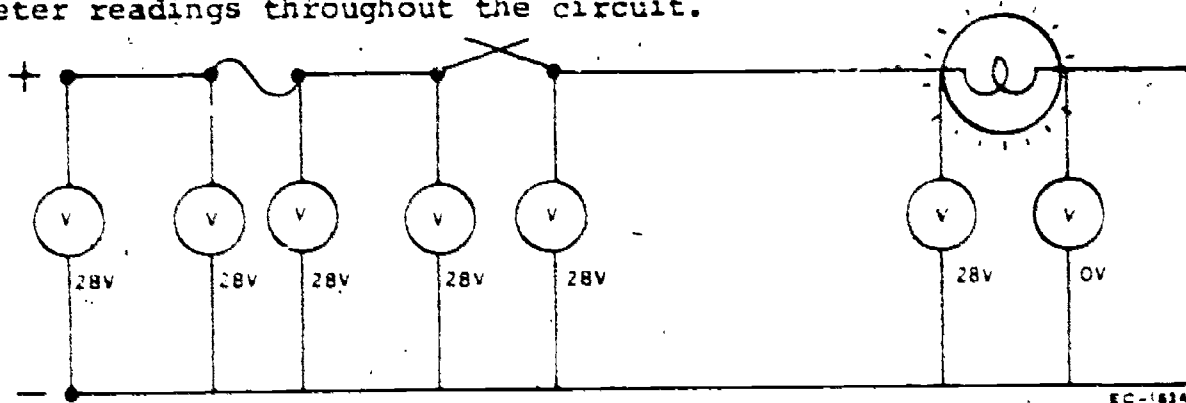

Figure 53. Normal Voltmeter Readings
**LOCATING OPENS.** The exact location of an open can be found by using the voltmeter. You should, first of all, understand what a voltmeter indicates in a normal operating circuit. Figure 53 illustrates normal voltmeter readings throughout the circuit.
A voltmeter connected positive to negative should always indicate the difference in voltage across the two points. A voltmeter connected negative-to-negative or positive-to-positive should not give a difference in electrical pressure. (See figure 53.) Readings other than these are considered abnormal. Exact location of an open can be found in the positive or negative parts of the circuit between a normal and an abnormal reading.